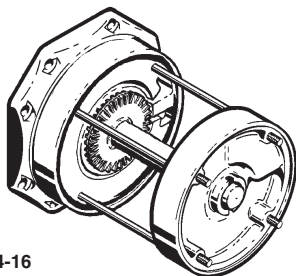

Figure 4-16
- c. With the "O" ring facing the left hand channel ring, slide the channel ring onto the guide rods. The small outlet opening should be on the same side as the pump inlet. Refer to Figure 4-16. Push
- With the "O"ring facing the left hand channel ring, slide the channel ring onto the guide rods. The small outlet opening should be on the same side as the pump inlet. Refer to Figure 4-16. Push on firmly until the "O" ring fits inside the lip in the left hand channel ring. Refer to Figure 4-14.